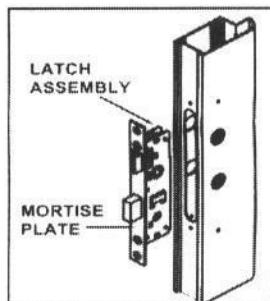

FIGURE 4
D. Insert latch assembly into end of door panel as shown in **Fig. 4.** **DO NOT** fasten at this time, fastening will be completed in **Step 2G.**